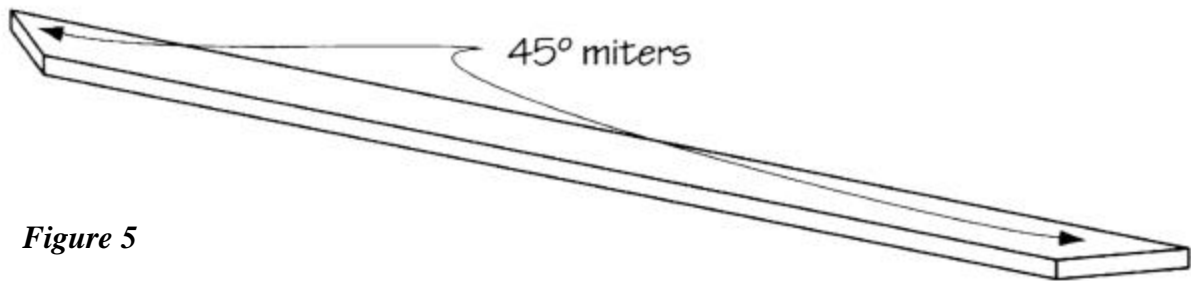

Figure 5
1. The tabletop is composed of a top and bottom layer. The top layer consists of four frame pieces surrounding the center plywood. The bottom layer is made of wider frame pieces that support both the center plywood and the top frame]. To form the bottom layer, cut four top trims (D) from 1 x 4 pine, each measuring 50-inches long.
2. Miter both ends of each top trim (D) at opposing 45-degree angles, as shown in *Figure 5*.